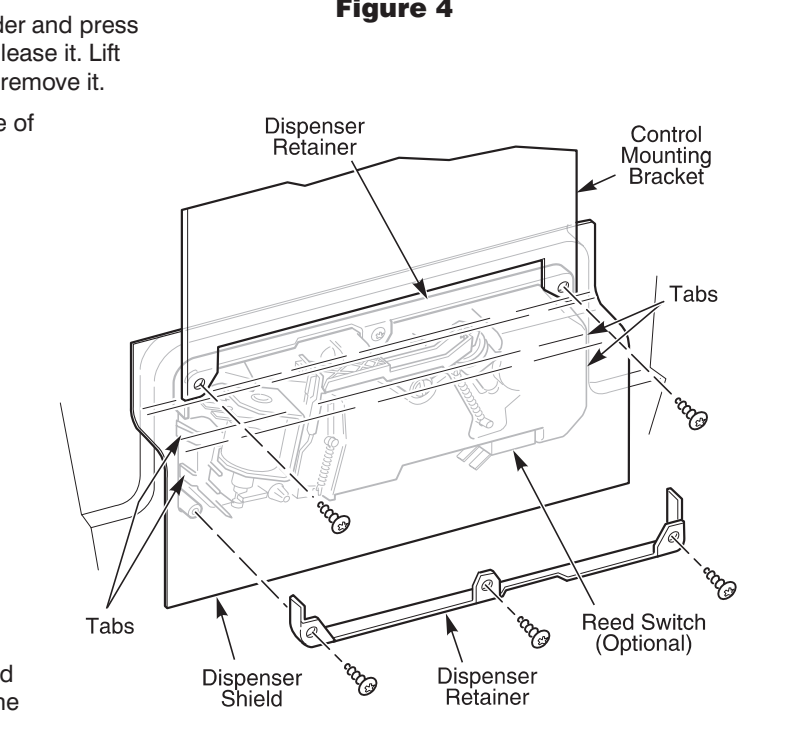

Figure 5
- Referring to Figure 5, remove the two (2) metal dispenser retainers: First remove the two (2) outer edge screws from the control mounting bracket and detergent dispenser shield. Next remove the three (3) screws from the bottom retainer, releasing it. Reach under the detergent dispenser shield to remove the remaining screw from the center hole of the upper retainer. Set the retainers aside for later reinstallation.
- Snap dispenser into place from inside the dishwasher. Close the door. Referring to Figure 5, replace the metal dispenser retainers. Install one (1) screw each into the center hole of each retainer. Place two (2) screws in the remaining holes of the lower retainer and tighten. Insert the two (2) remaining screws through the upper dispenser retainer and dispenser shield, and tighten. Make sure that the detergent dispenser shield is properly installed and captured by the top dispenser retainer.
- Slide access panel slots down over toe panel screws. Press top of access panel against dishwasher and tighten two (2) screws at top of panel.